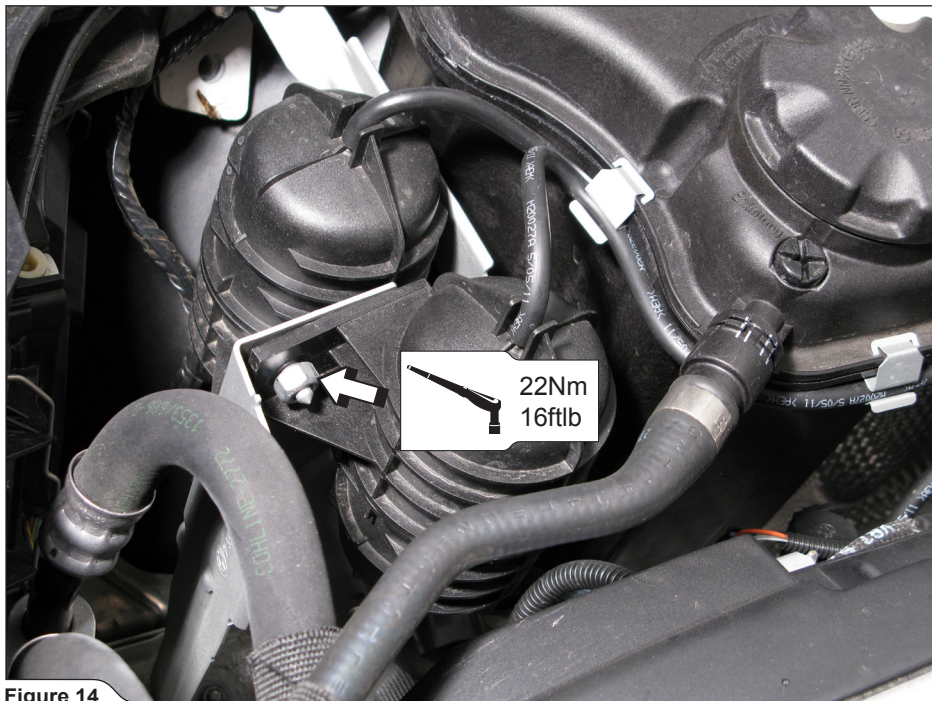

Figure 14
- Link the Akrapovič 3cm vacuum hose to the vacuum tank and reassemble the vacuum tank back to its original position (**Figure 14**).